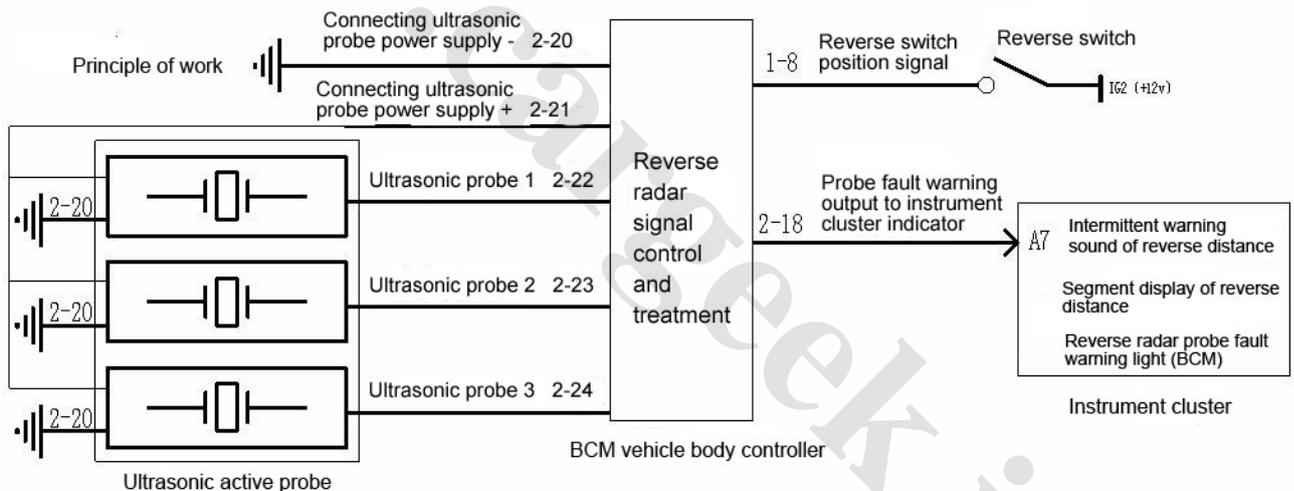

Fig. 4-115
(1) Check circuit as shown in Fig. 4-115
(2) Check step
(1) Check circuit: see Fig. 4-115